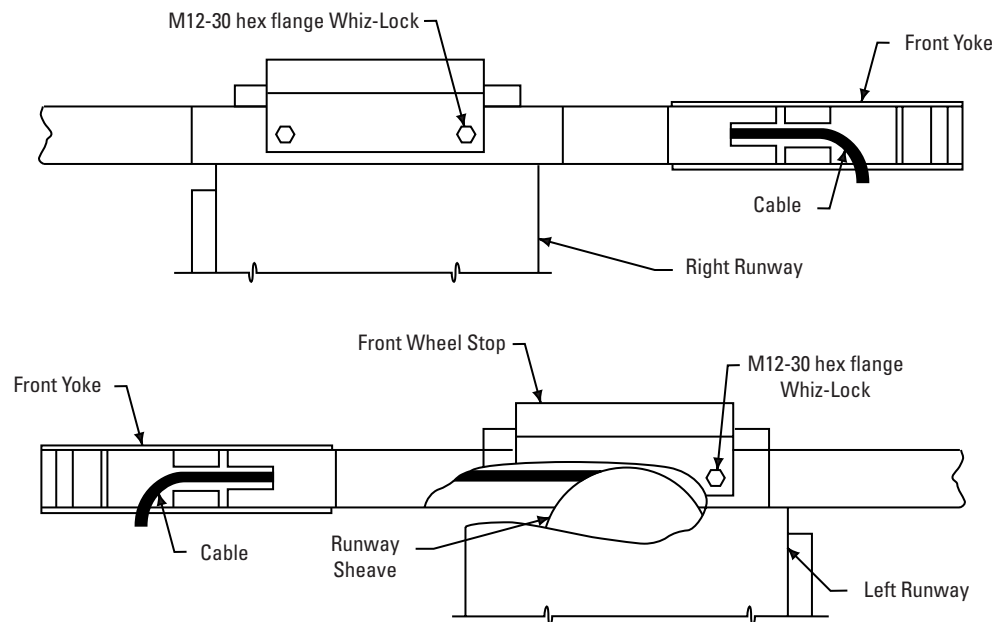

Fig. 4
- Position front and rear yokes at respective ends of runway, Fig. 1. The opening in the side of the yokes should be lined up with the cable sheaves in the runway ends. Feed cable ends through yoke openings, Fig. 4. Do not assemble sheaves in yoke ends at this time.
With the openings in the yoke tube side lined up with the left runway ends, align the two (2) holes in the top of the front yoke tube with the slots in the runway end plates and the holes in the front wheel stops. Bolt runway to the yoke using four M12-30 hex flange bolts, Fig. 4.